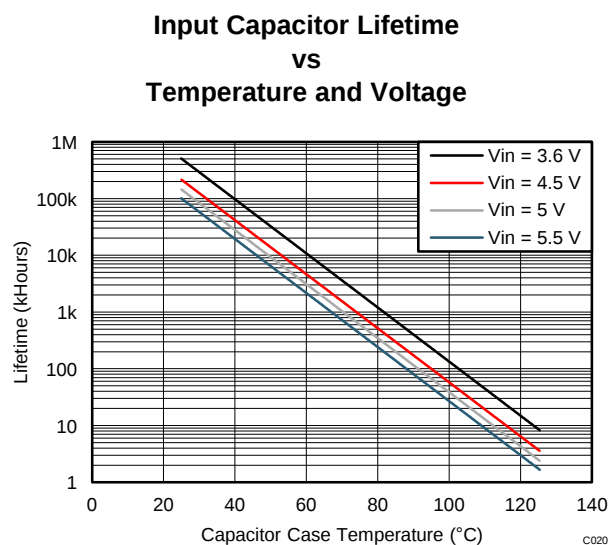
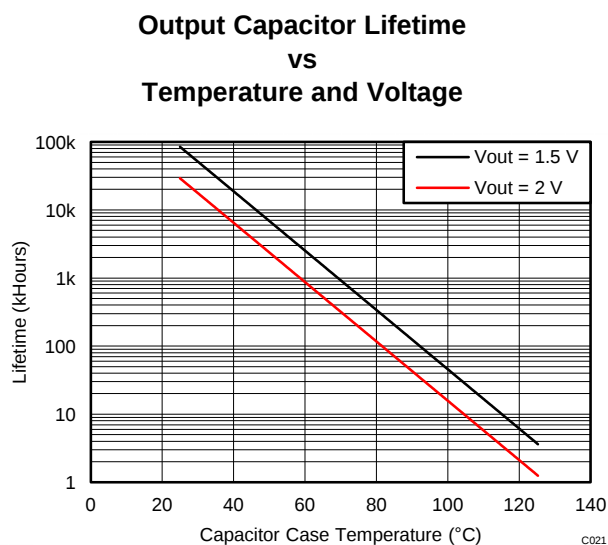

Figure 48. Input Capacitor Lifetime
Figure 49. Output Capacitor Lifetime
Failures caused by systematic degradation are described by the Arrhenius model. The most critical parameter (IR) is the Insulation Resistance (i.e. leakage current). The drop of IR below a lower limit (e.g. 1 M Ω) is used as the failure criterion. See Figure 48 and Figure 49. Note that the wear-out mechanisms occurring in the MLCC capacitors are not reversible but cumulative over time.